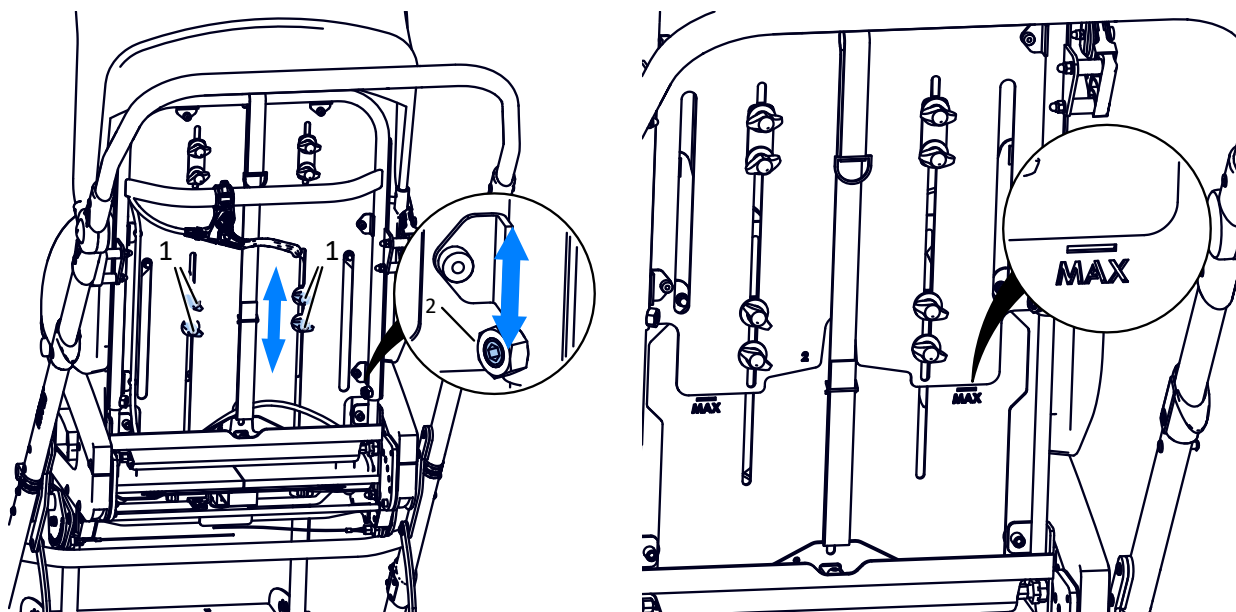

Fig. 17
In order to adjust the height of the backrest Fig. 17 loosen the knobs (1) blocking the chest support, as well as the blocking screws (2). Set the desired height of the backrest and then secure it by retightening the screws (2). Set the chest supports in their proper position and retighten the screws (2) blocking the chest supports. The maximum extension of the backrest is marked by the sign MAX. During extending the backrest and reaching the maximum of the permitted limit, the MAX sign is visible. It is non-permissible to extend backrest above the MAX sign.